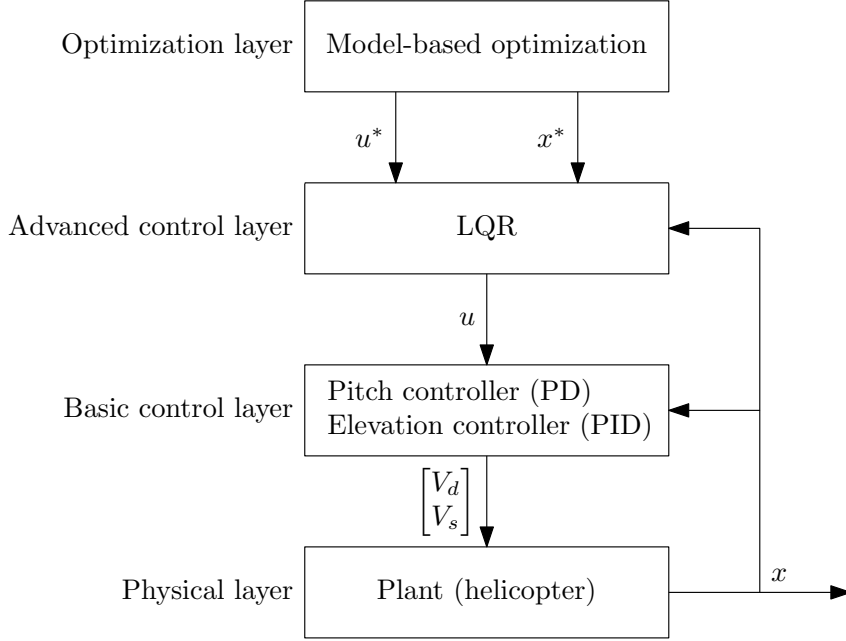

Figure 8: Illustration of the layers in the control hierarchy used in Sections 10.3 and 10.4.
As long as the system is following the calculated optimal trajectory x^* the calculated input sequence u^* is implemented. If a deviation from x^* is observed, the manipulated variable will be modified by the feedback term. This new control hierarchy is illustrated in Figure 8.
3. An alternative strategy would be to use an MPC controller. How would you realize this controller? Discuss advantages and disadvantages with an MPC controller compared to the controller you have implemented. Also, How would the structure in Figure 8 look like if you used MPC.